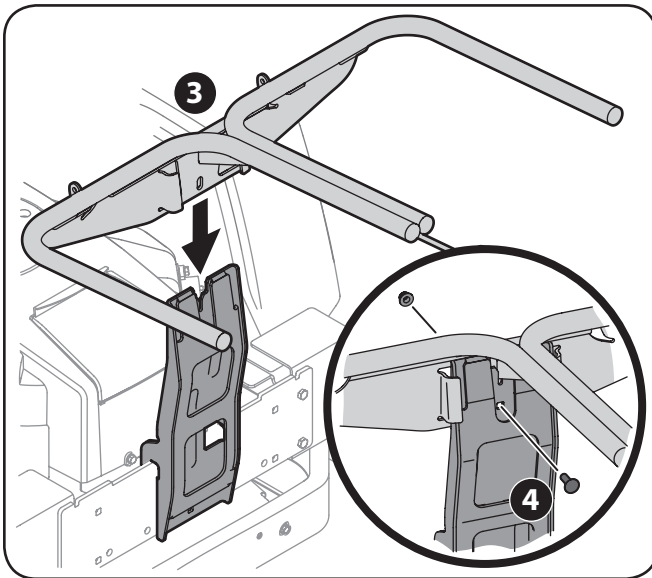

Figure 4-5
5. Install and secure the hanger assembly onto the upright support bracket (3 in Figure 4-5) using a 710-0276 carriage bolt and 712-04063 flange nut (4 in Figure 4-5) from hardware pack 689-00320.